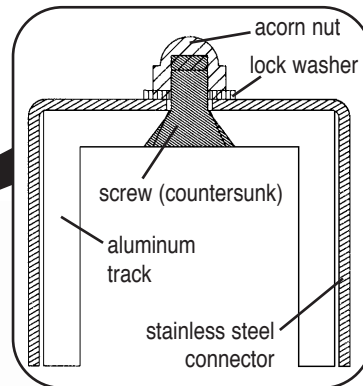

Figure 4
2. Once tightened, check to see if screw heads are properly countersunk as shown in *Figure 4*.